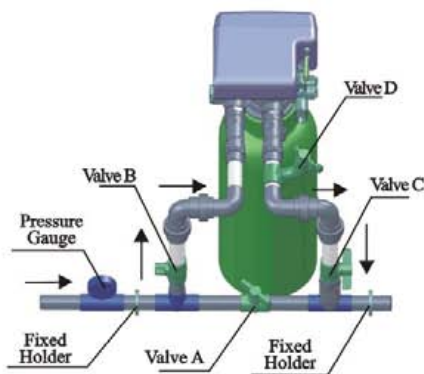

Figure1-3
**④ Pipeline connection**
- a. As Figure1-3 shows, install a pressure gauge in water inlet.